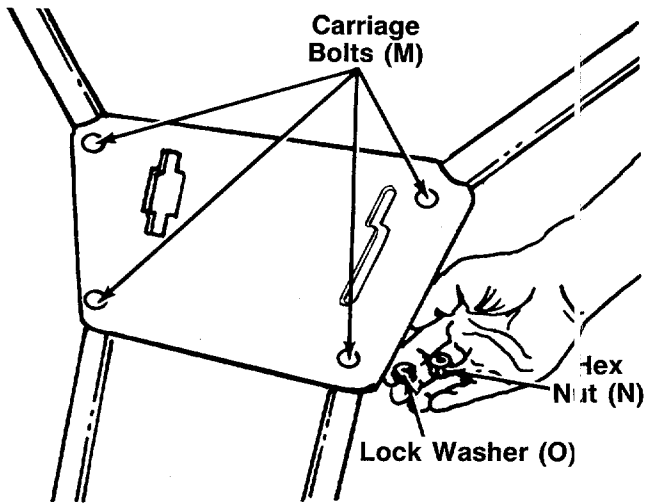

FIGURE 7.
3. Mount the handle panel (AC) to the handles. Secure with carriage bolts (M), lock washers (N) and hex nuts (O). See figure 7.